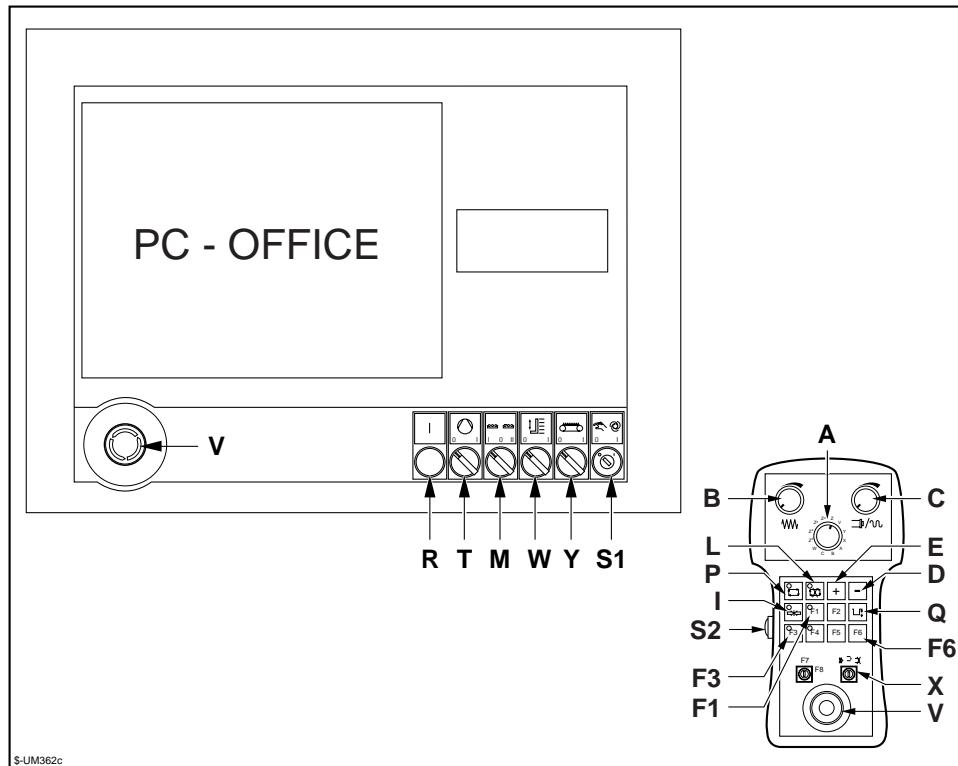

Fig. 4.1
The electrical equipment has a set of fixed push-buttons and selectors and a mobile push-button panel also called the "mobile control panel" (Fig. 4.1 - 4.1a).
- Reset the machine emergency by pressing the white push-button R (fig. 4.1) for at least one second (until it comes on)
- Select the axis to be moved to extract the tool from the workpiece being machined with axis selector A (fig. 4.1) on the mobile push-button panel:
- Use the axis selector A (fig. 4.1) on the mobile push-button panel select one of the axes and move it extremely carefully to visually check tool extraction from the workpiece (in this state the axes are moved up to a maximum speed of 2m/min.)